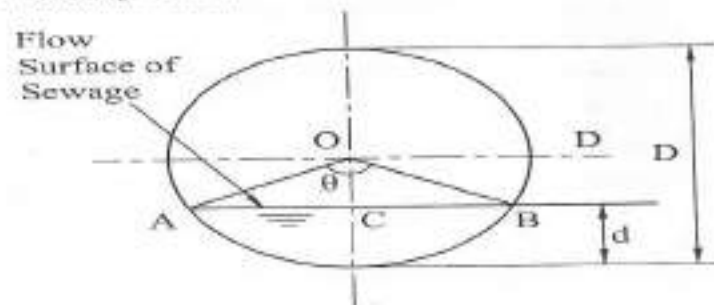

Fig. 8.6
(2) Circular section running partially full (Refer fig. 8.6),